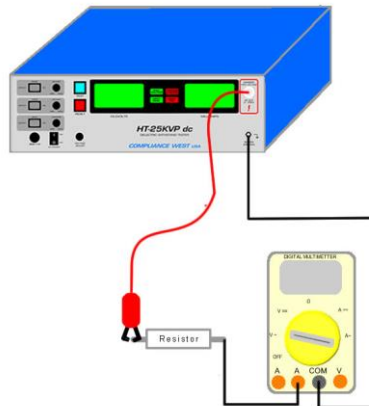

Figure 5-2. Current Measurement with 100 W High Voltage Resistor.
2. Connect the output of the HT-25KVP dc through a 100 watt high voltage load resistor (2M Ω) in series with an external current meter returning to the Return jack on the front panel of the HT-25KVP dc as is shown on figure 5-2.